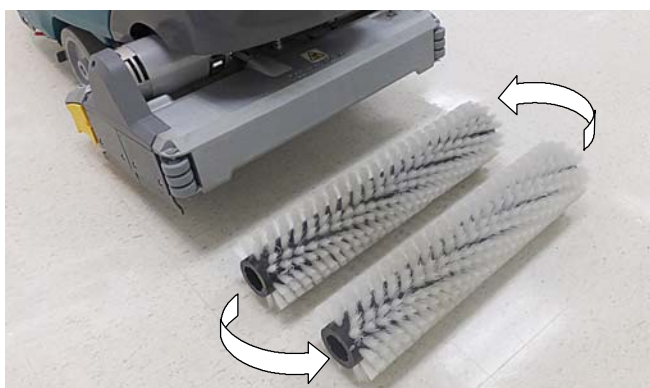

FIG. 112
- Cylindrical brushes - Rotate brushes from front to rear (Figure 112). Replace brushes when they no longer clean effectively.